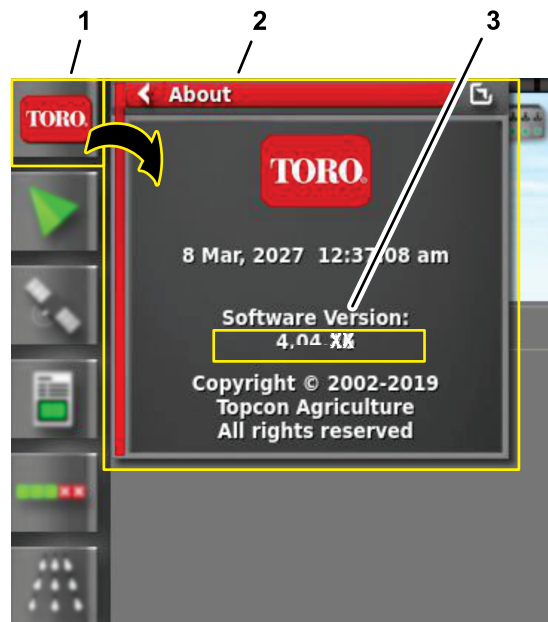

Figure 144
- Press the ABOUT (Toro) icon at the upper left corner of the control console (Figure 144).